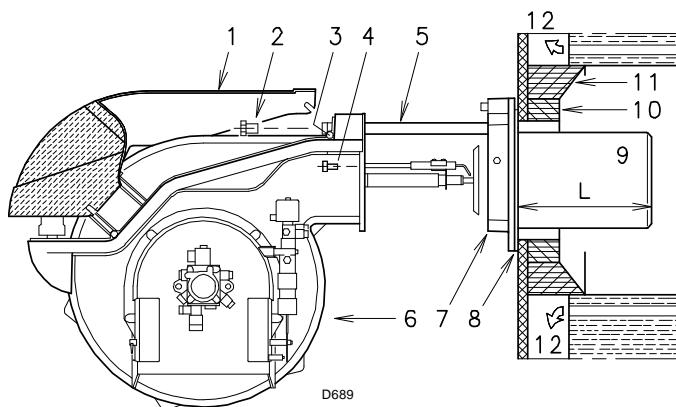

Fig. 7
### 5.4 Blast tube length (Fig. 7)
For boilers having a water-cooled front the refractory fettling 10)-11)(Fig. 7) is not required unless it is expressly requested by the boiler manufacturer.
Once this operation has been carried out (if it was required), secure flange 7) (Fig. 7) to the boiler plate interposing the supplied gasket 8). Use the 4 screws provided after having protected the thread with anti-seize products (high-temperature grease, compounds, graphite).
- Retract the burner on its slide bars as shown in (Fig. 7 pag. 11).